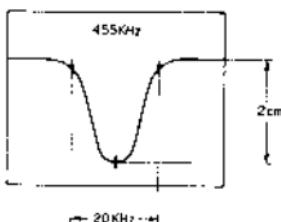

Fig. 13
- Connect Genescope output to Test Point (TP) and Genescope Input to Point (8) (AF Output).
- Adjust cores of IFT, T₁, T₂, and T₃ of AM IF Amp P.C. Board so that the waveform (Fig. 13) level is maximum and center frequency is 455 kHz (Center frequency differs according to country. Adjust according to country's center frequency).